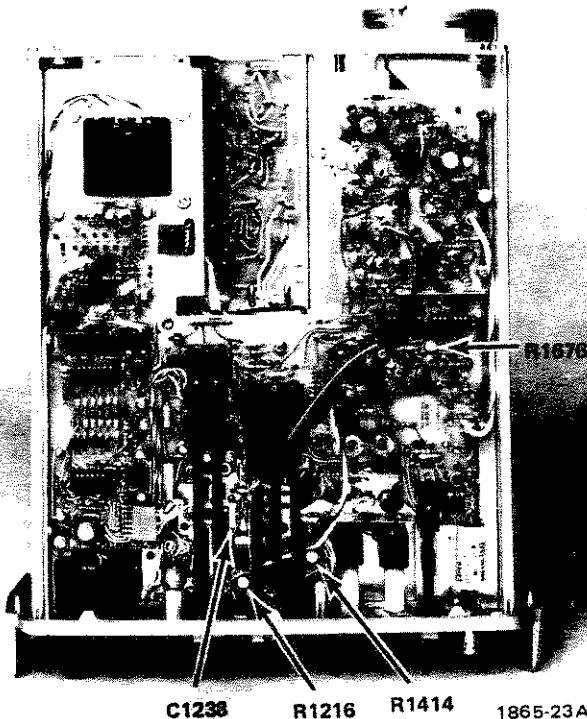

Fig. 4-7. Fast Ramp test point.
a. Connect the test oscilloscope test probe to the front lead of C1238 (see Fig. 4-7).
c. ADJUST—R1676 (RAMP PEAK) for a peak-to-peak amplitude of 6 V  $\pm$ 0.2 V with the ramp beginning at an approximate  $-2$  V level and ramp ending at an approximate  $+4$  V level (see Fig. 4-7).